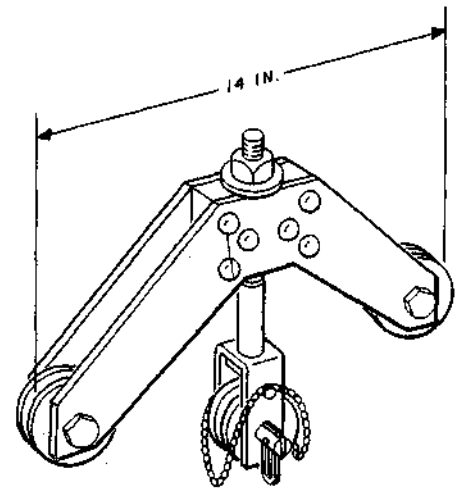

Fig. 5—B Slack Puller
3.05 The frame of the B slack puller (Fig. 5) is V-shaped rather than oval and the two ends which support the grooved rollers are neither rounded nor beveled. The screw assembly consists of a machine bolt, a nut, a shackle with a grooved roller, and a shackle pin. The roller and pin are